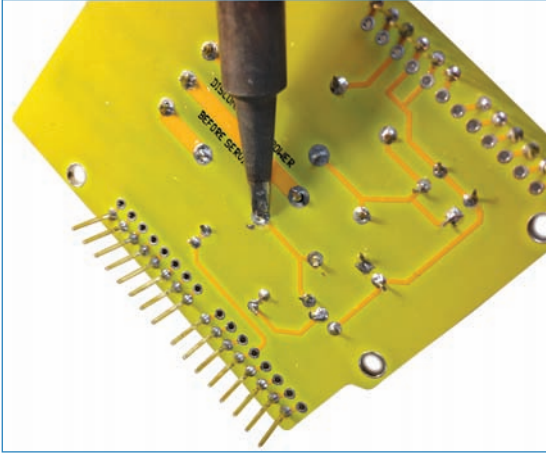

FIGURE 3.16 Heating up the lead and pad helps the solder stick to them.
5. Touch the tip of the hot soldering iron to both the circuit board's pad and the lead of the component, as you see in Figure 3.16. Hold it there for a couple of seconds. This warms up the pad and lead and helps the solder stick to them.